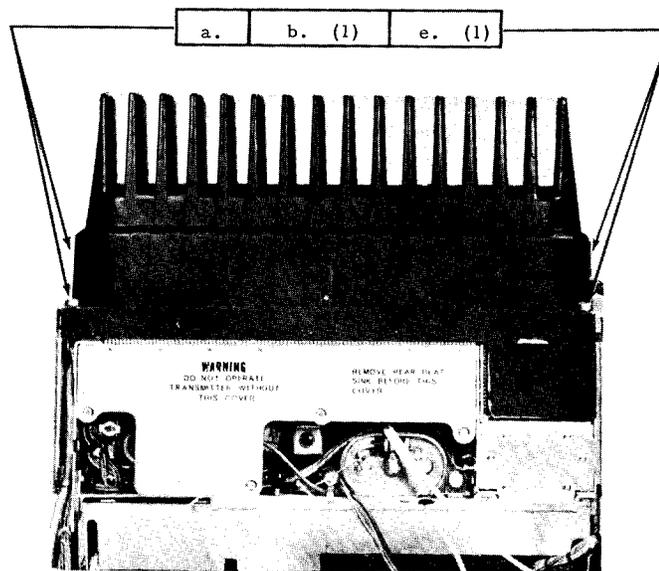
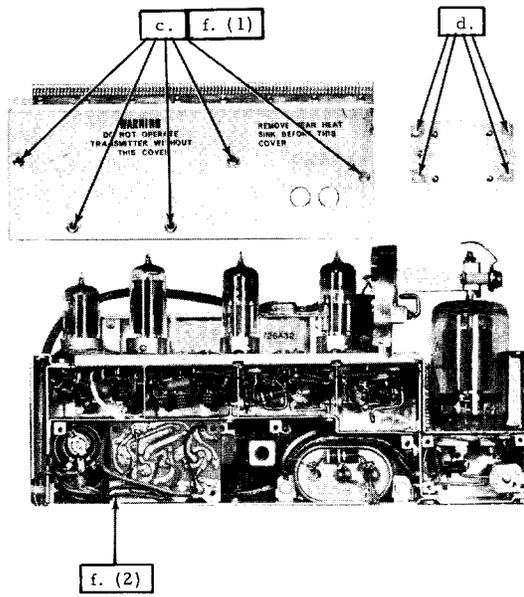
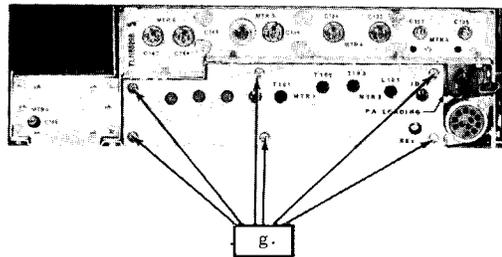

Figure 2.
Figure 4.
Figure 5.
(1) Loosen four captive screws and remove rear heat sink.
(2) Remove mounting screw.
(3) Lift up on plate tank circuit.
(4) Release hold down spring at left of tube (as viewed in the figure) and remove tube.
c. Access to Bottom of Exciter Board (Figure 4)
d. Access to Bottom of Power Amplifier Section (Figure 4)
e. Removal of Harmonic Filter (Figures 2 & 3)
(2) Remove input lead to harmonic filter from antenna at the connector. (The connector is on the chassis assembly directly beneath the transmitter.)
(3) Remove screw and spread apart chassis to allow room for removal of coaxial connector.
(4) Remove harmonic filter output lead.
(5) Remove two mounting screws and lift out harmonic filter.
f. Access to IDC Filter Board (Figure 4)
(1) Remove four screws and slide exciter bottom cover out.
(2) Remove one screw and fold out board.
g. Access to Top of Exciter Board (Figure 5)